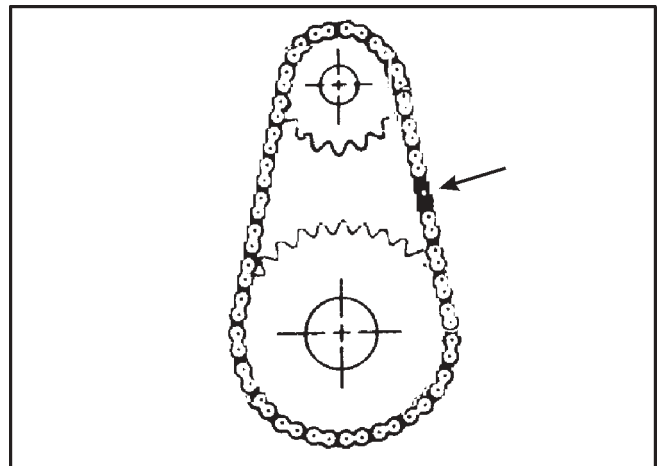

Figure 7-17. Position of idler chain link for removal
1. Place the gearshift in neutral and roll the vehicle until the connecting link of one of the idler chains is positioned as shown in Figure 7-17.